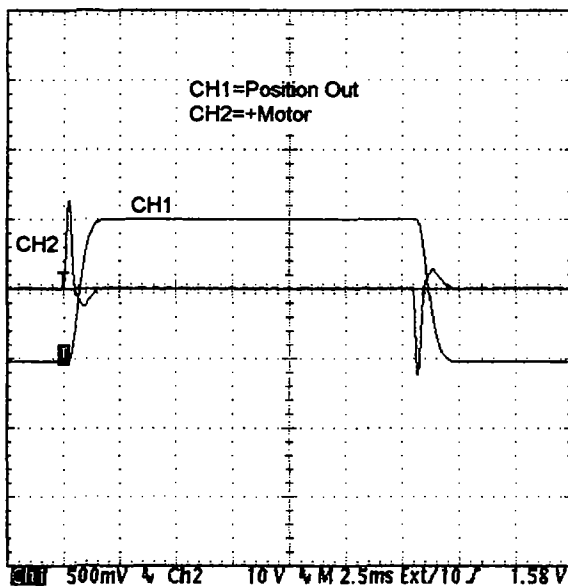

Figure 15.
4. Attach one scope probe to Position Out on TP1. Set the scope channel's sensitivity to 0.5V/div. Attach a second scope probe to F1 to the +Motor signal. Set the sensitivity to 10V/div. This is the drive voltage sent to the scanner drive coil. See Figure 15.